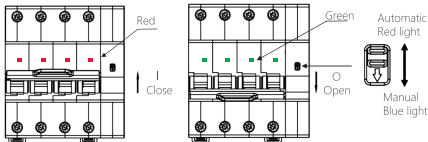

Figure 3 Circuit breaker closing/opening status indication,
8.1 Before installation and use: check whether the circuit breaker mark is consistent with the working conditions used; Before power on, the circuit breaker shall be operated several times, and its mechanism action shall be flexible, reliable, and free of blocking. See Figure 3 for the circuit breaker closing/opening status indication and the "Automatic"/"Manual" position of the mode selection switch.